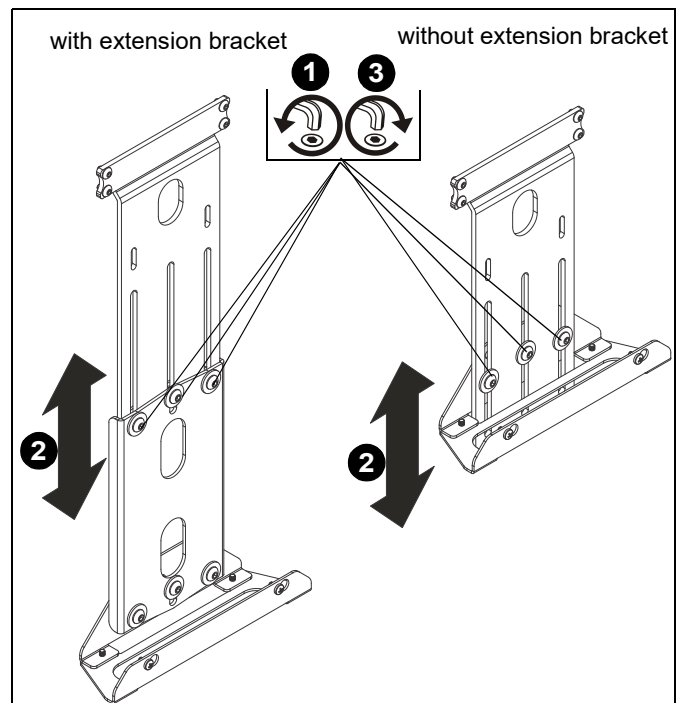

Figure 9
1. Loosen three 1/4-20 x 5/8" button head cap screws (F) holding extension bracket (B) or camera bracket (C) to hanging bracket (A). (See Figure 9)
2. Adjust height of shelf (C) as desired.
3. Tighten three 1/4-20 x 5/8" button head cap screws (F) holding extension bracket (B) or camera bracket (C) to hanging bracket (A). (See Figure 9)